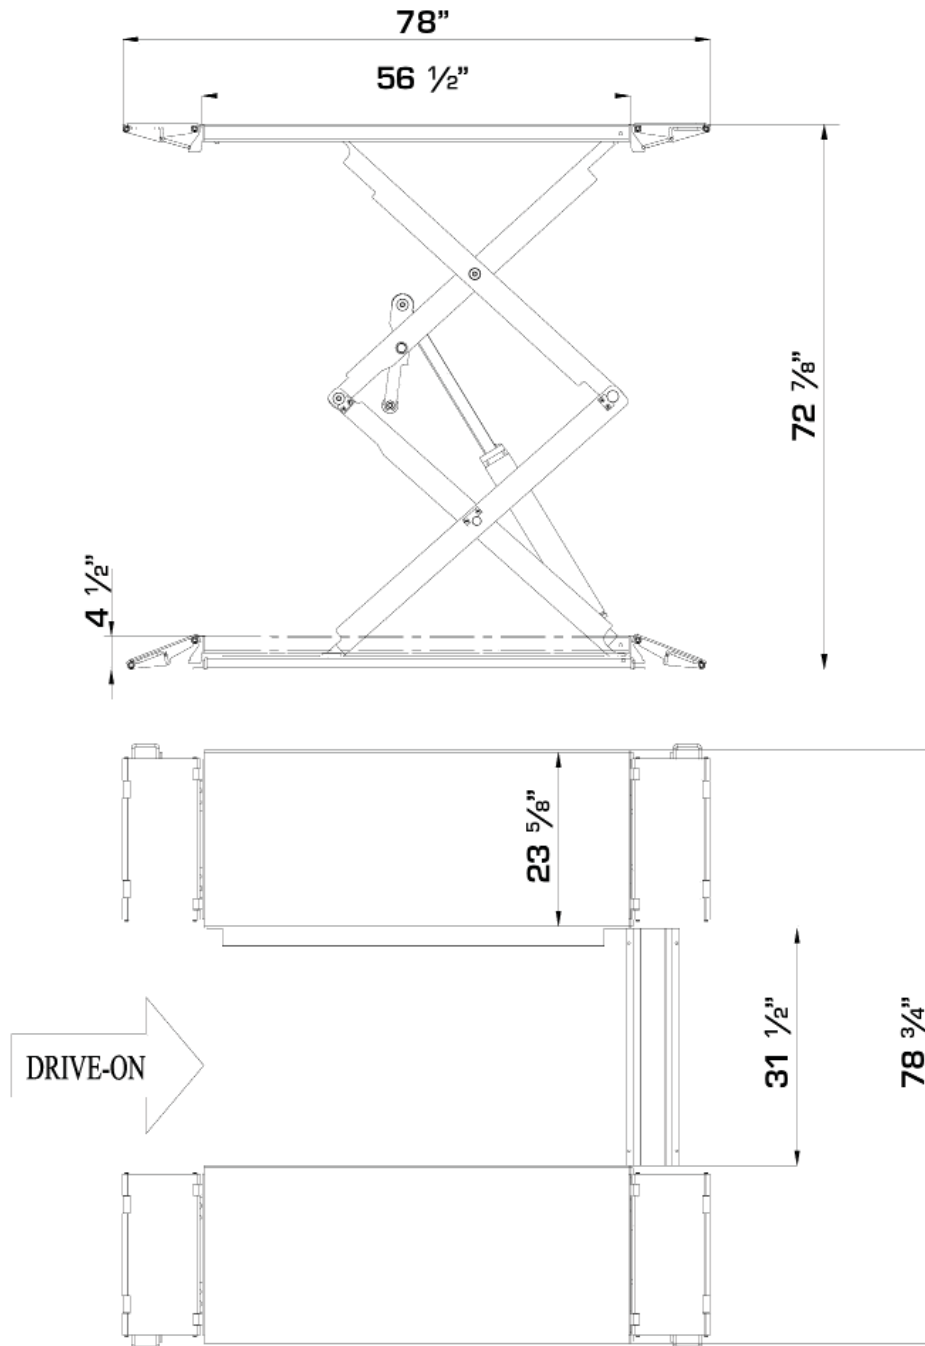

Figure 2 – Layout
5.1 Size And Main Features (Ref. Figure 2)